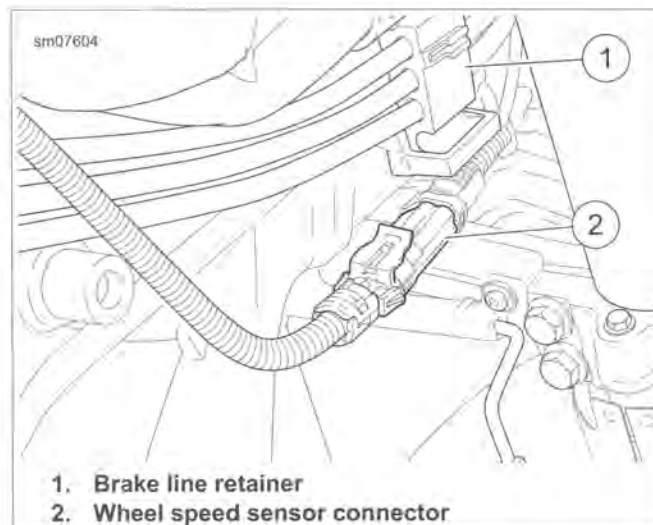

Figure 2-55. Steering Head Caddy (right side shown)
9. See Figure 2-55. Release brake line retainer block from right steering head caddy. Remove line from retainer block,
7. See Figure 2-55. Secure brake line in anchor block (1). Secure anchor block to right side steering head caddy.
9. See Figure 2-55. Release brake line retainer block (1) from right steering head caddy. Remove line from retainer block.
5. See Figure 2-55. Secure brake line in retainer and secure retainer to right side steering head caddy.